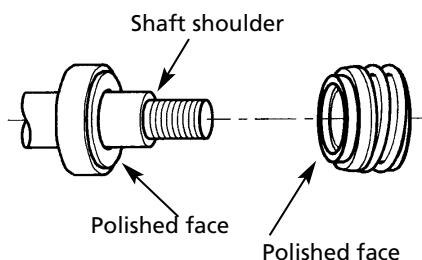

Figure 2
Refer to Figures 2 and 3.
10. Wet the inside rubber portion of new seal head with a light coating of soapy water. Slide head onto pump shaft with sealing surface facing seal seat (See Figure 2). This completes seal installation.